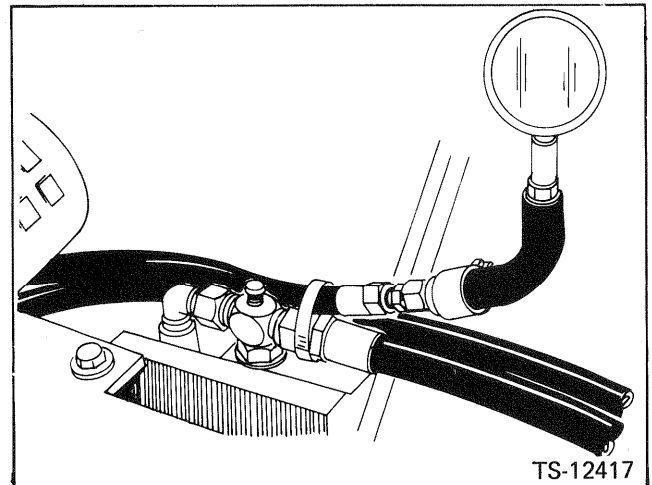

Fig. 8-1 Check Converter Out Pressure
2. Install a gauge at the converter OUT pressure hose located under the floorboard tied to the hydraulic hoses to the left of the transmission. Fig. 8-1.